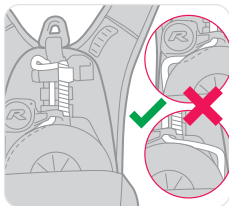

Figure 6
- Inspect descent line for any 'slack' between the drum and rack (Figure 6). If the line is slack the Latchways PRD shall be removed from service and advice sought from MSA or authorised agent.